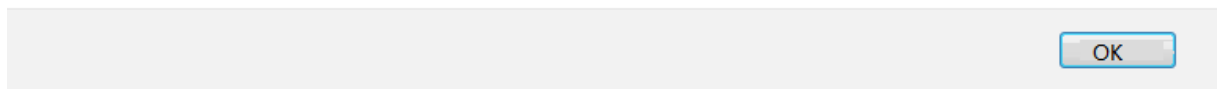

Figure 4-75
Step 1 Click “Import Config” or “Export Config” in http environment. The system pops up Figure 4-75.